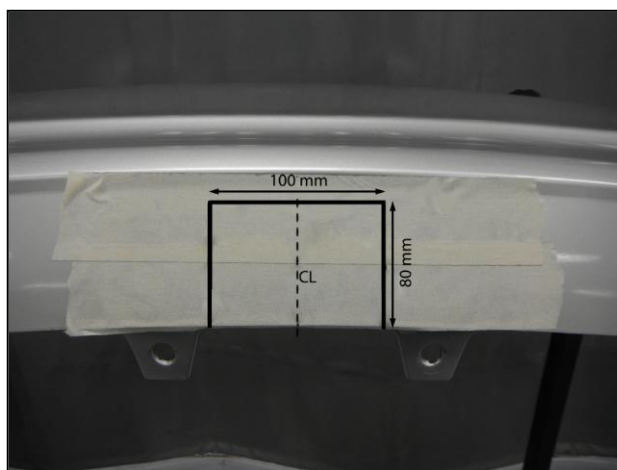

Figure 2 - Bumper cut
- 13 Trim the bumper center as shown in figure 2.